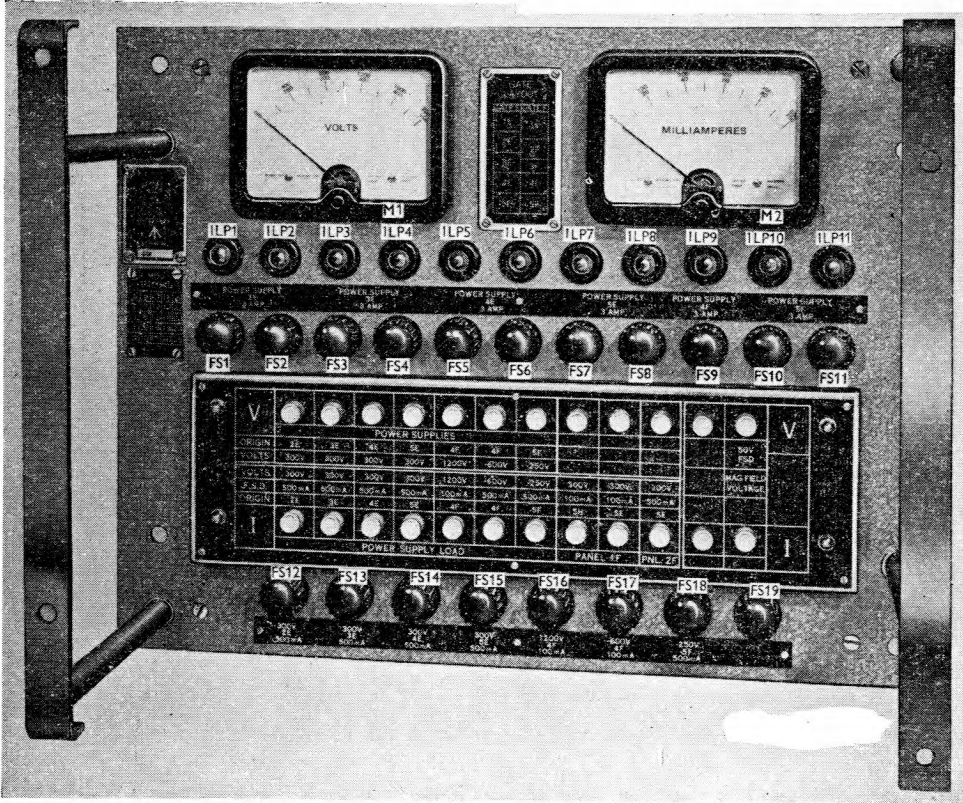

Fig. 5. Panel, test electrical (No. 3) M14: front view
13. This test panel (fig.5 and 6) is located on the R.H. cabinet gate at position 1E. The panel dimensions are: height 12 in, length 9 in, width 15 3/8 in, and the weight is 10 1/2 lb. Twenty-four push-buttons mounted on the front of the panel select the various functions.